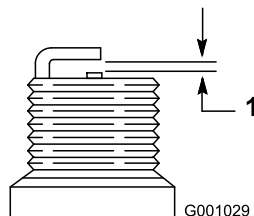

Figure 46
4. Set the gap between the electrodes on a new spark plug at 0.76 mm (0.030 inch) as shown in Figure 46.